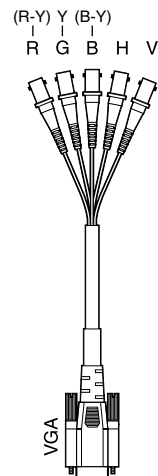

Figure 4. BNC to VGA Adapter Cable
- ② **RGB input** — The RGB-DVI 300, RGB-HDMI 300, and RGB-HDMI 300 A accept RGB (RGBHV, RGBS, RGsB, and RsGsBs) and HDTV component (YUV) signals. Connect the input signal to the female 15-pin HD connector on the back of the scaler.
- If necessary, use a BNC to VGA adapter cable (see figure 4).